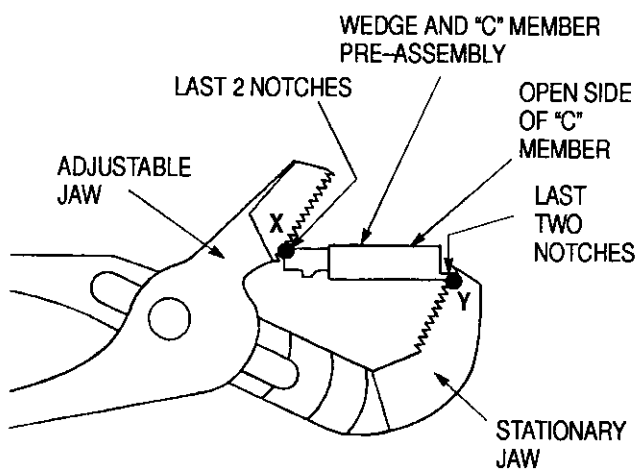
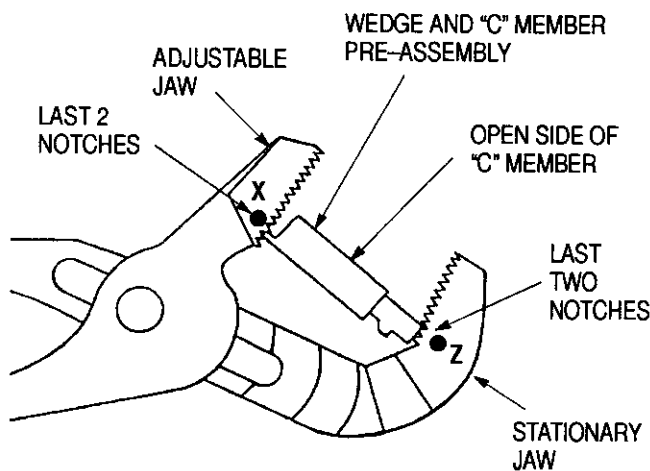

Figure 4
Figure 5
4. Use large parallel jaw pliers to secure wedge in "C" member. See Figures 4 and 5.
To reduce effort required, strike wedge with pliers until the rear of the wedge protrudes by 9 mm [.375 in.]. Maximum mechanical advantage occurs when the connector assembly is positioned in-between points X and Y, as shown in Figure 4. (Figure 5 shows an alternate installation position between points X and Z). Use pliers with long handles, 305 mm [12 in.] or larger.
- Revised art in Figure 4, added new Figure 5; revised following figure numbers